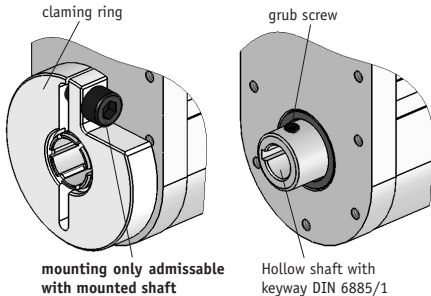

Fig. 3: Driving shaft mounting
- Via the clamping ring or keyway (see fig. 3) the driving torque is transferred onto the driving shaft.